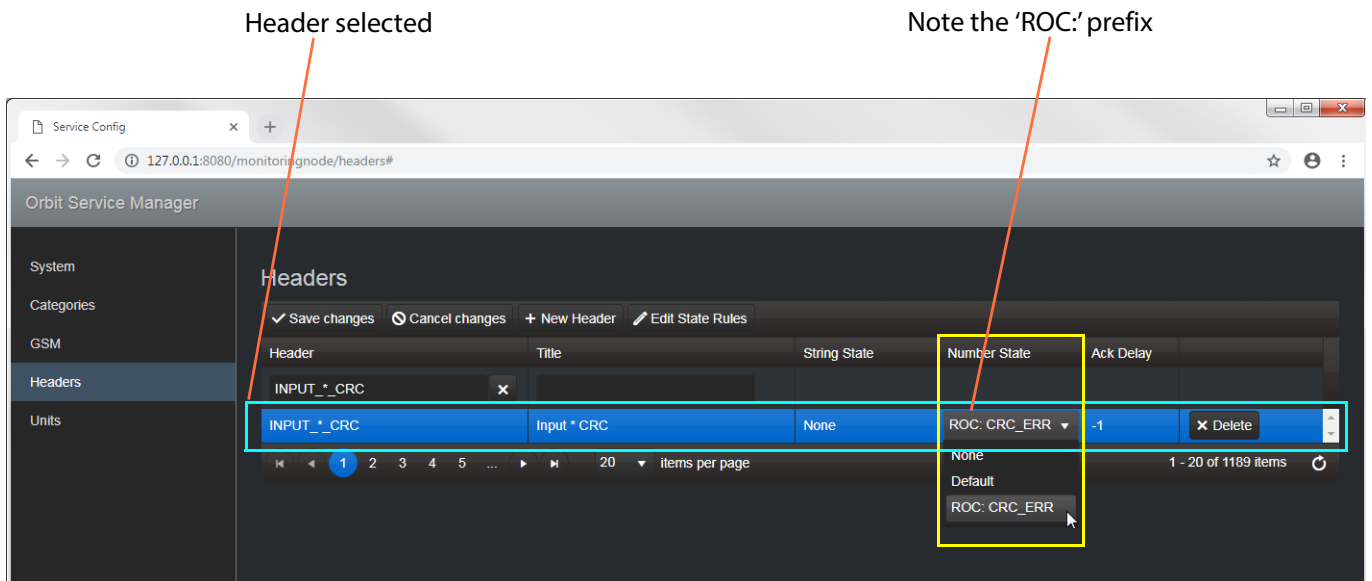

Fig. 9-24: Select the Rate of Change (ROC) Rules
- 7 Select the defined 'Rate of Change' rule in the 'Number State' column. See Figure 9-24 on page 304.